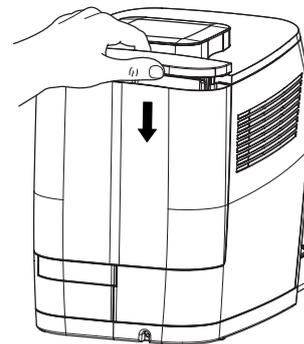

fig. 3: Fitting the water tank
8. Fill the water tank with cold drinking water up to the "Max" marking and place it on the appliance (fig. 3). However, make sure that the water tank hooks into the top of the appliance and lies close against the appliance.